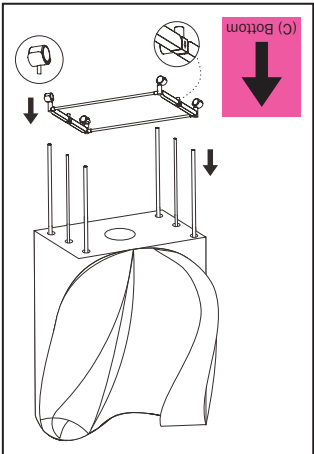

Fig. 9
8. Attach the (C) Bottom Module with 4 castor wheels to the 6 large poles with the arrows facing down (Fig. 9).